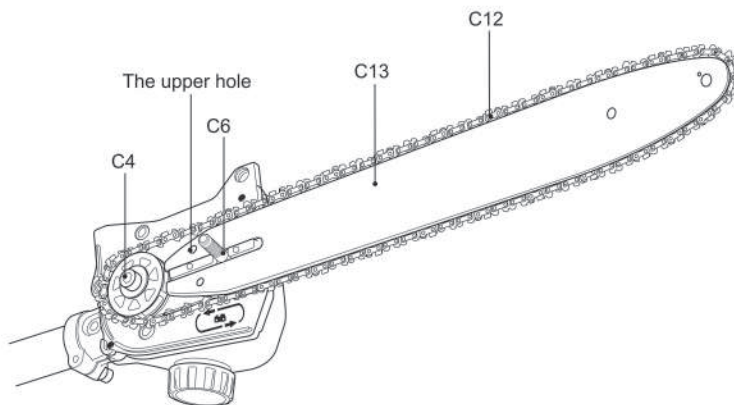

Fig. 10
- 6) Align saw chain (C12) and the guide bar (C13) assembly with the drive sprocket (C4) and the mounting bolt (C6). Lay the saw chain (C12) around the drive sprocket (C4) and then lower the guide bar (C13) to install it to the mounting bolt (C6). Make sure the tension pin is inserted into the upper hole on the guide bar (C13). (Fig.10)